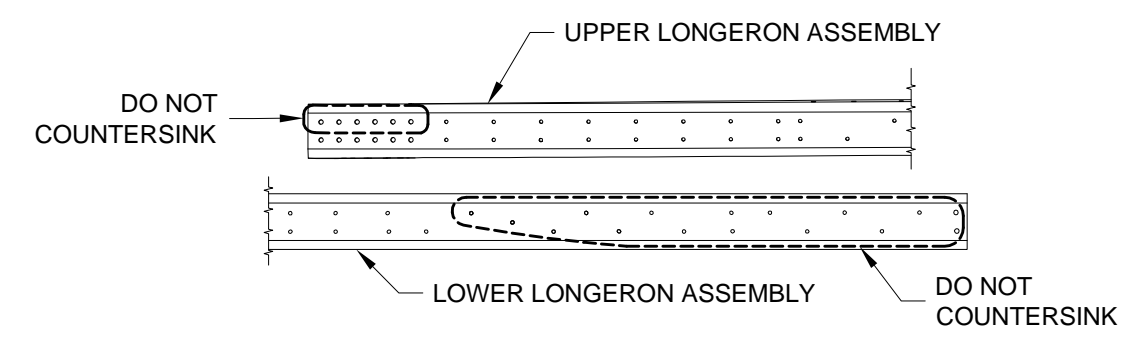

FIGURE 4: LONGERON COUNTERSINKING EXCEPTIONS
Step 8: Machine Countersink the outboard holes in the Upper and Lower Longerons Assemblies to accept the dimpled holes in the side skins. See Figure 4 for exceptions.